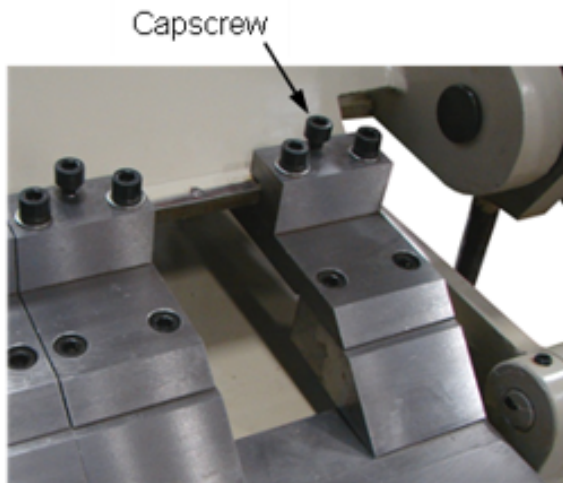

Figure:6-5
2. Now for each finger block, loosen the capscrew shown in (fig. 6-5) and slide the finger assembly off of the finger guide.